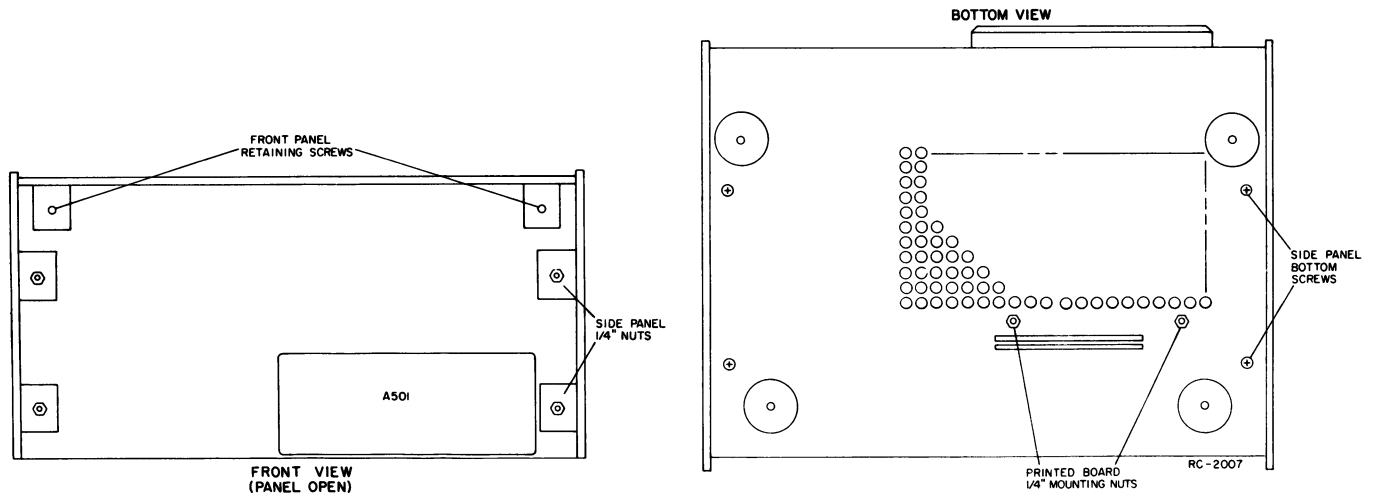

Figure 2 - Disassembly Procedure
2. Remove the two 1/4-inch nuts on the inside of the back cover (see Figure 2).